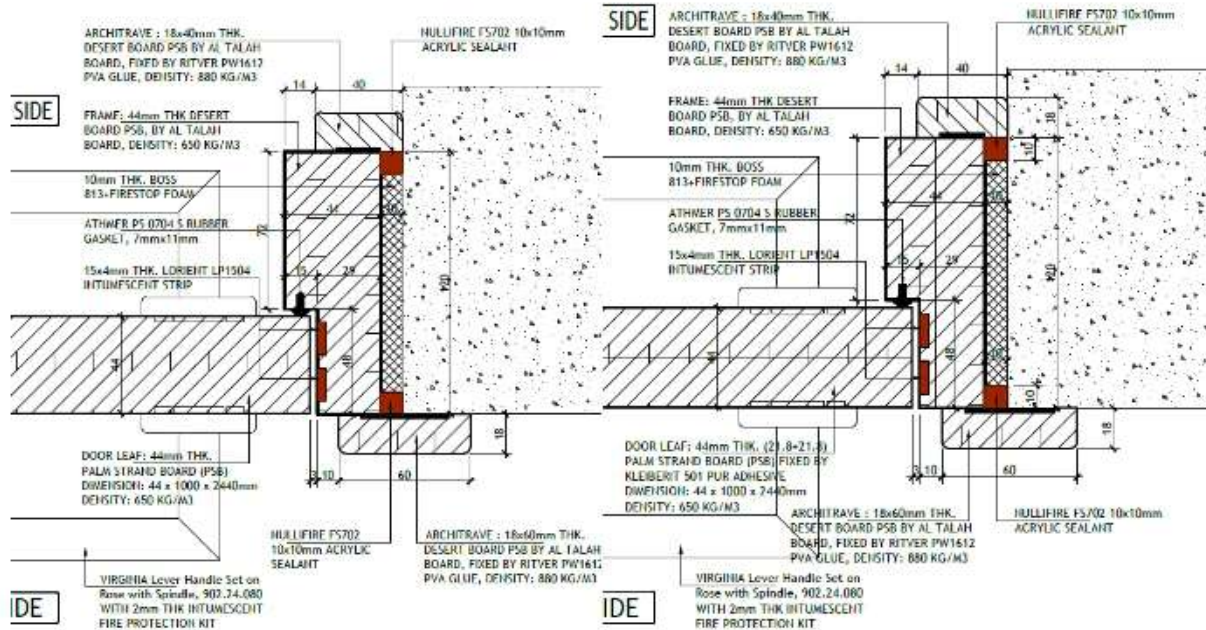

Figure 1. Door frame profile and door leaf core construction with sizes for Door 1 and 2, respectively.
The door frame, of 120x44mm cross-section, was made of Desertboard Palm strand board manufactured by Al Talah Board, with a density of 650 kg/m3. The door stop of 72x15mm of the same material and density was created within the door frame cross-section (see Figure 1).
The door frame, measuring 120x44 mm, was made of Desertboard Palm strand board (PSB) produced by Al Talah Board, with a density of 650 kg/m3. The door stop of 72x15mm of the same material and density was created within the door frame cross-section (see Figure 1).
- ☐ 2 pcs of 15x4mm PVC encapsulated fire seal (LP1504), produced by Lorient – see figure 1 and photo 1– door frame rebates.
- ☐ 1 pc of 11x7mm Rubber gasket (PS-0704-S), produced by Athmer – see figure 1 and photo 1 – door frame rebate.